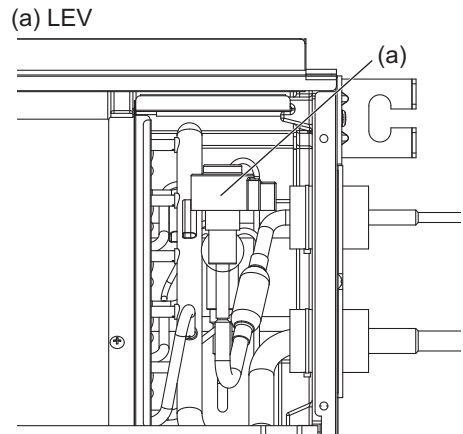

Fig.8
- (1) Remove the control box cover (A) with procedure [1]-1.
- (2) Remove the front plate (D) with procedure [1]-3.
- (3) Remove the LEV driving motor. (Fig.8)